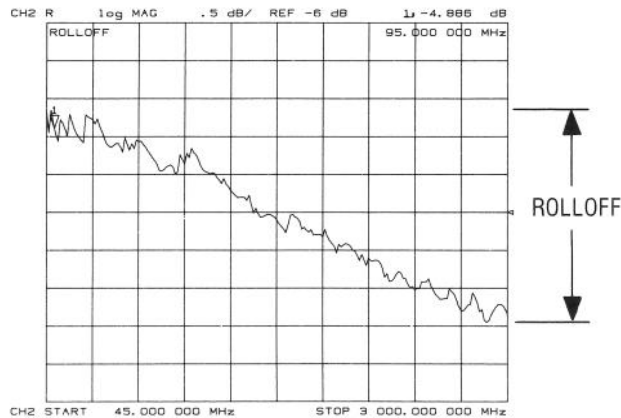

Figure 20. Rolloff.
6. Press [DISPLAY] [DUAL CHAN ON] to view both channels simultaneously. Then press [CH 2] [MEAS] [R] [START] [4] [5] [M/u] [x1] to set up channel 2 to display the sampler rolloff. Adjust the scale and reference to display the trace on the screen. The sampler rolloff should be 1.5 to 3.5 dB as shown in Figure 20.